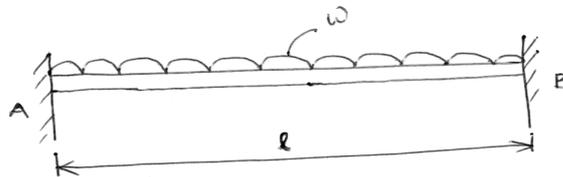

Figure-1
21. a) Find the deflection at the center of a clamped beam subjected to uniformly distributed load through its length as shown in figure-1. Use Galerkin's method.